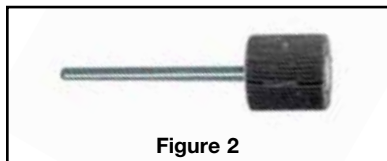

Figure 2
- Ridges must be removed. Use a 3/8" diameter flap wheel (**Figure 2**) chucked in a miniature die grinder to smooth the transition from the chamfer into the bore.